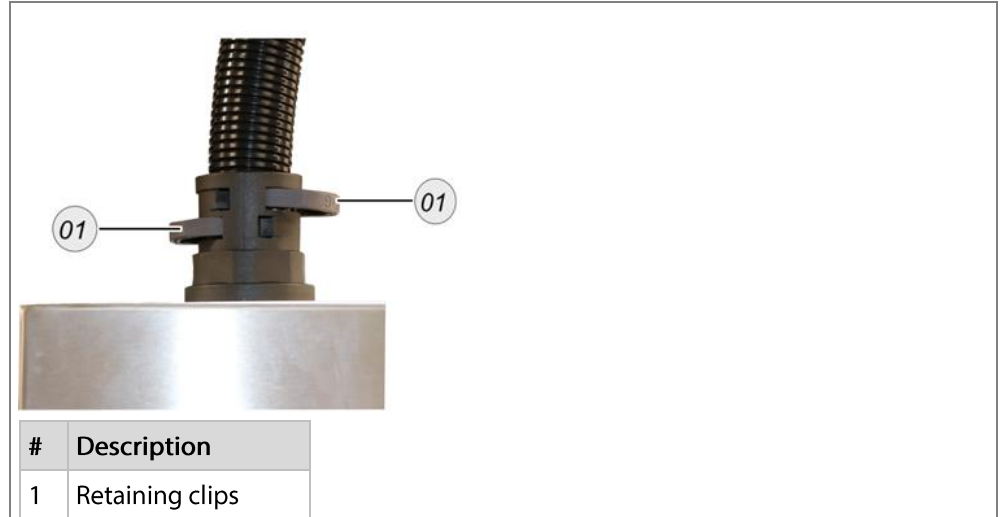

Fig.2
- ▶ Press the retaining clips of the heated sampling line adapter together (Fig.2 (1)).